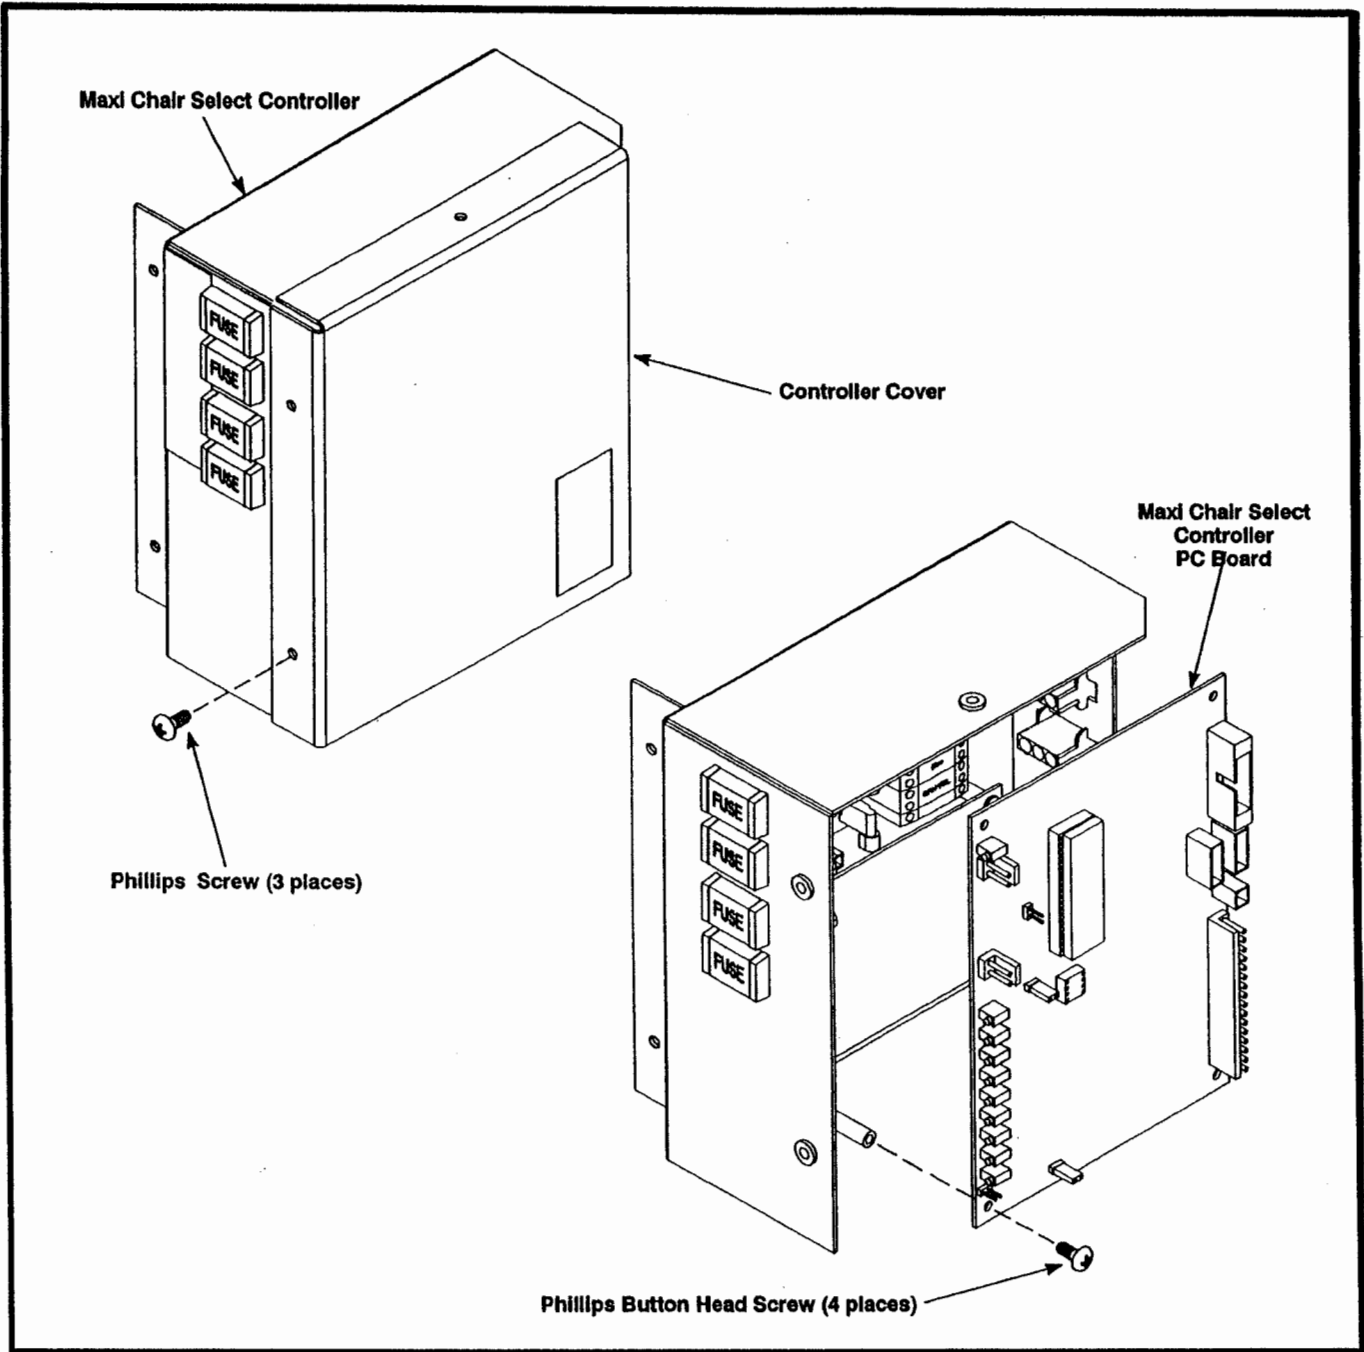

Figure 3-2. Replacing the PC Board
4. Remove the cover to the Maxi Select Controller (102-001212) by using a No. 1 Phillips screwdriver to remove the 3 screws attaching it to the controller box. See Figure 3-2.
7. Remove the PC board and set it aside. Mark the PC board as "old" or "Replaced: mm/dd/yyyy" to distinguish it from the new one. See Figure 3-2.